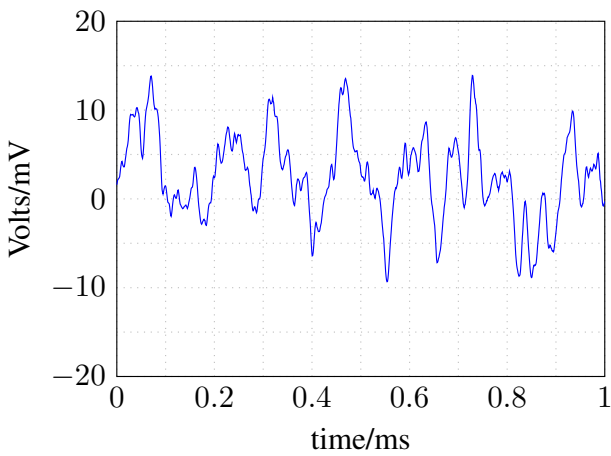

Fig. 53: Noise breakthrough before a well-adjusted AGC level.
7. Turn TR4 counter-clockwise and watch the output signal amplitude getting smaller. Continue turning until just to the point where the amplitude does not get any smaller (Figs. 53 and 54).